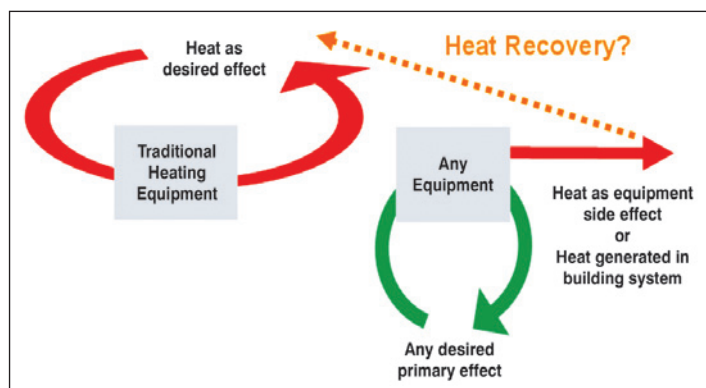

Figure 1: Heat recovery could help to divert waste heat to places where it is needed.
- **Energy costs:** Figure 1 Recovering otherwise rejected and thus wasted heat, gives a double benefit; recovered heat reduces purchased heat (and cost) and also reduces the ancillary power necessary to reject the heat. The building annual operating costs to produce the necessary cooling and heating, will be reduced.